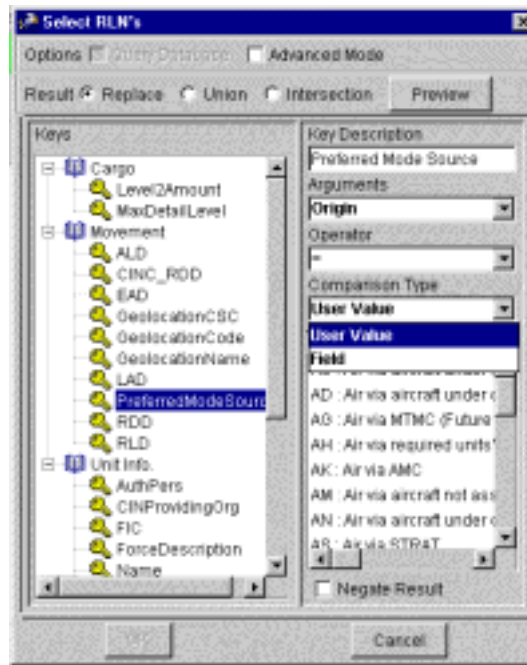

Figure 5.104 Select RLN's Window
9. As needed, click the Comparison Type ▼. A drop-down list of “comparison types” is displayed (Figure 5.104). Otherwise, skip to Step 11.